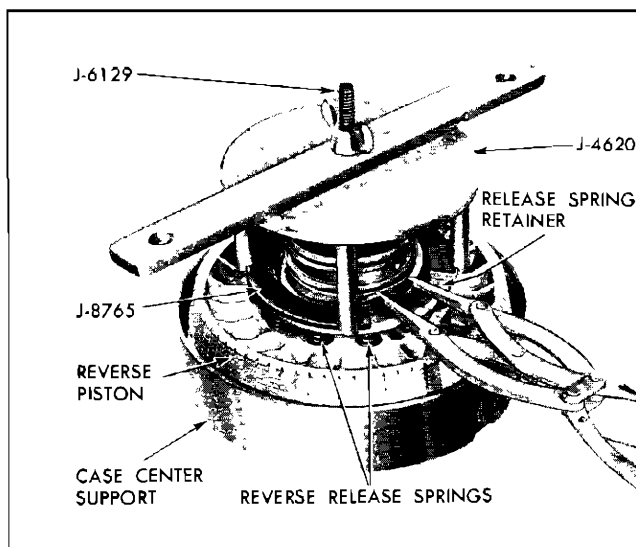

Fig. 83 Removing Reverse Release Spring Retainer Snap Ring
2. Using tools J-8765, J-6129 and J-4670-B, remove reverse release spring retainer snap ring. Center tool and position ring gap between legs (Fig. 83).
16. Lay snap ring on top of tower, then using tools J-8761, J-6129 and J-4670-B compress release springs (Fig. 83).